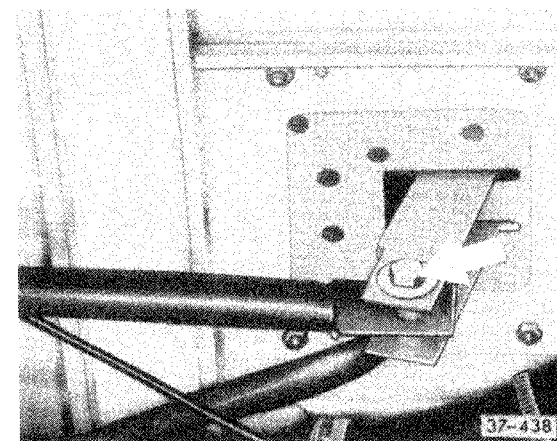

Fig. 3 Selector lever cable, removing
- loosen shift rod bolt (Fig. 3)